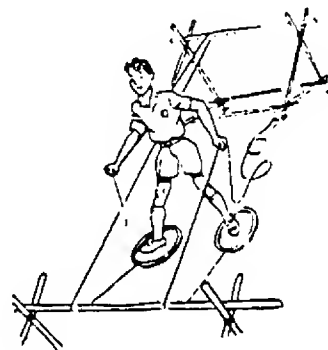

Figure 418 Moving Stepping Stones
41. Moving Stepping Stones: This makes a good relay or timed event. This skill may be done by using circular hoops or another method would be to use a couple of small pieces of plank to stand on with an eye screw in each piece of plank to secure the rope. The rope then goes from the plank pieces to a solid bar and back to the walker. If desired, you could use a solid bar on each end of the 25 foot long course and run the rope in various combinations as shown in Figure 418. The object would be to cross the caustic acid field without touching the ground or getting your feet out of the loops. It goes without saying that you will need a little coordination to move hands and feet together.